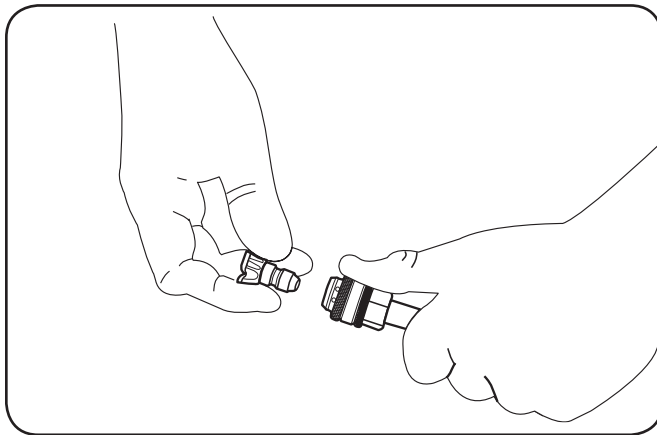

Figure 4-3
1. Pull quick-connect coupler back and insert nozzle. See Figure 4-3.